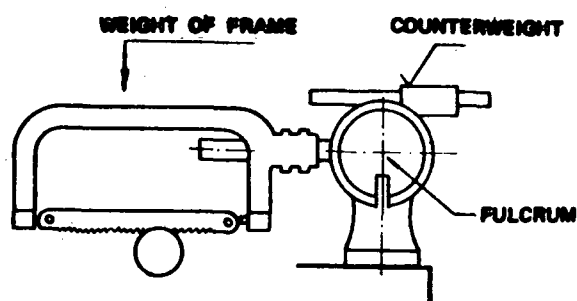

Fig. 3
a) *Mechanical* - The pressure of the frame serves this purpose. Pressure can be adjusted by shifting the counterweight (Fig. 3).